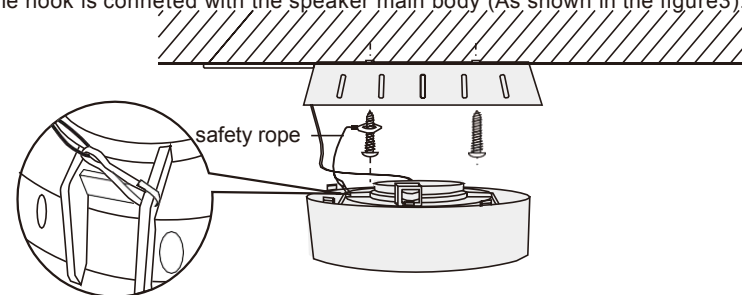

Figure 3
3. The safety rope ring is sheathed into fixed roof screw. one end of the safety rope with the hook is conneted with the speaker main body (As shown in the figure3).